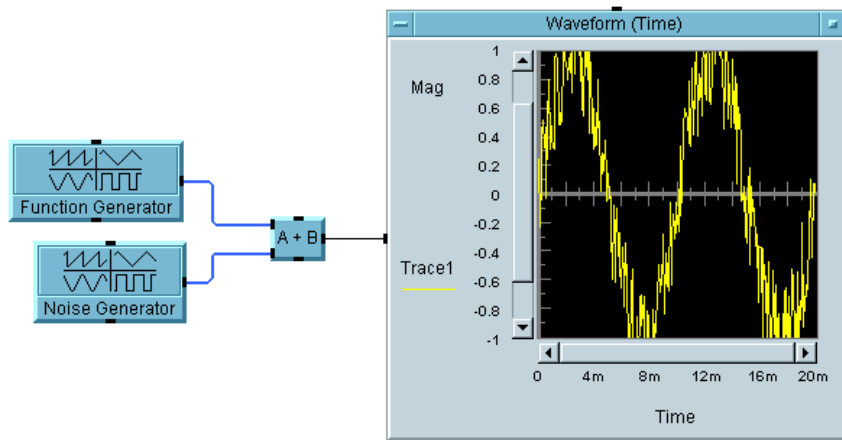

Figure 2-2. usrobj-program.vee at an Early Stage
5. Then, minimize the Noise Generator object and rearrange the objects as shown Figure 2-2.